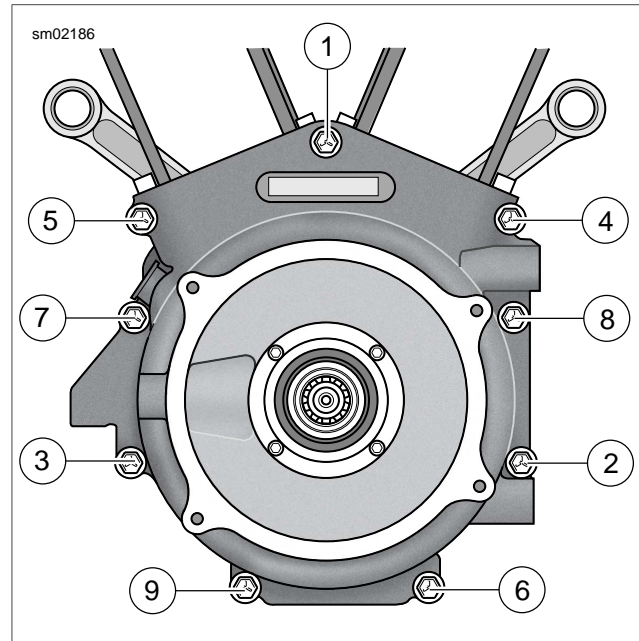

Figure 3-58. Crankcase Bolt Sequence
4. See Figure 3-58. Remove the nine crankcase bolts in the sequence shown.